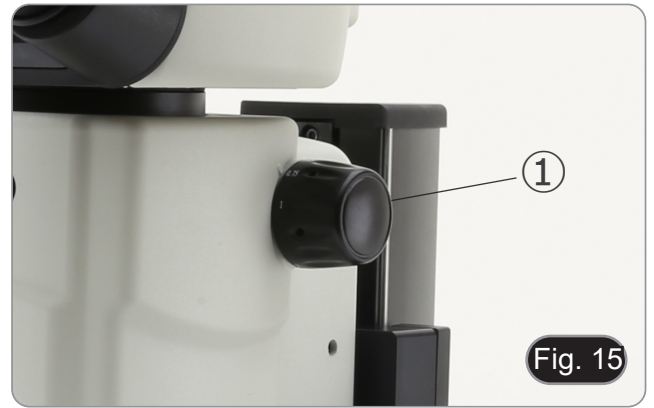

Fig. 15
1. Select the desired magnification by adjusting the zoom knob ①. (Fig. 15)